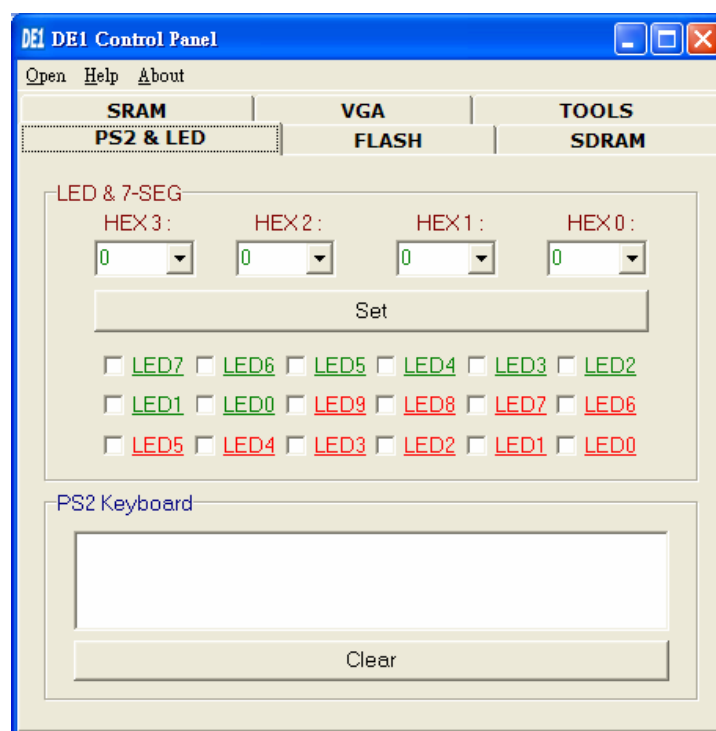

Figure 3.2. The DE1 Control Panel.
5. Start the executable *DE1\_control\_panel.exe* on the host computer. The Control Panel user interface shown in Figure 3.2 will appear.
In the window shown in Figure 3.2, the values to be displayed by the 7-segment displays (which are named *HEX7-0*) can be entered into the corresponding boxes and displayed by pressing the **Set** button.